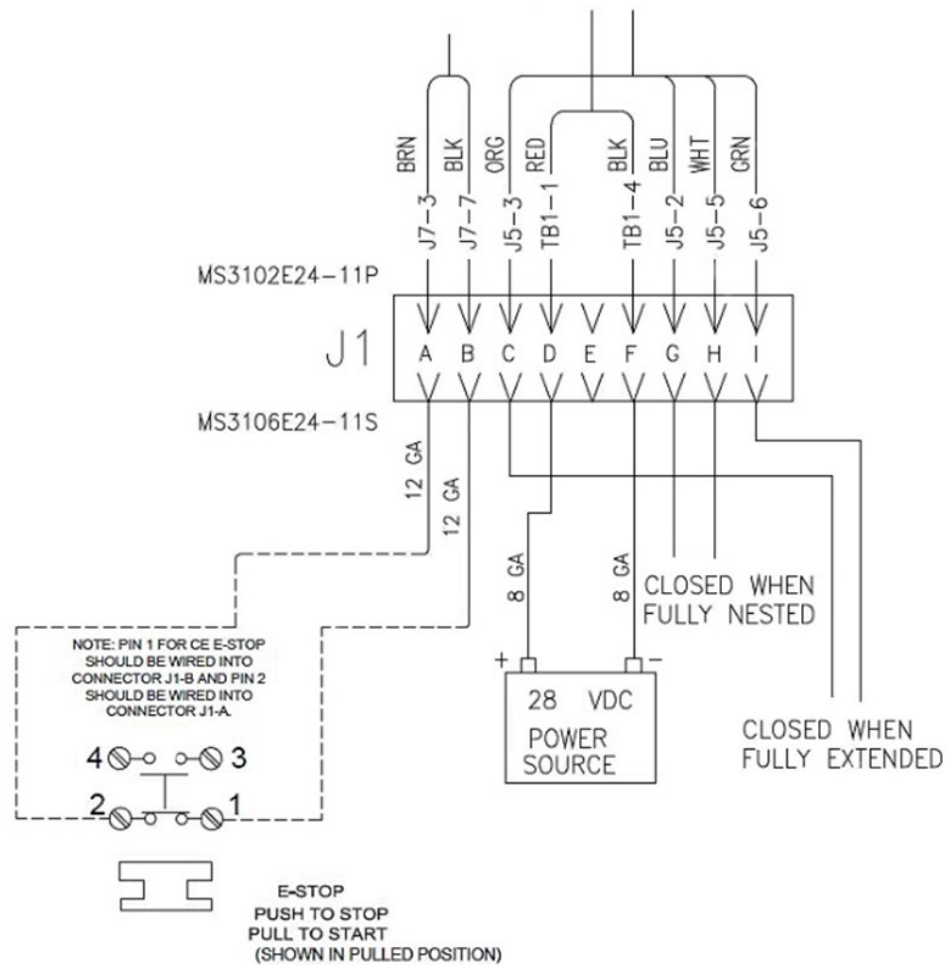

Figure 5-11 Power Cable Connector Wiring
1. Wire the Power Cable Connector and Emergency Stop Switch according to Figure 5-11.